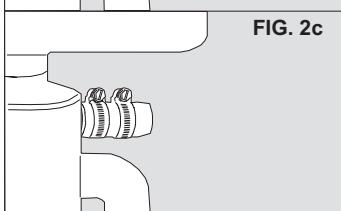

FIG. 2c
5. Mount hose coupler (provided) one inch over disposal nipple. Then slip both new stainless steel hose clamps (provided) loosely over hose coupler. (See Fig. 2c)